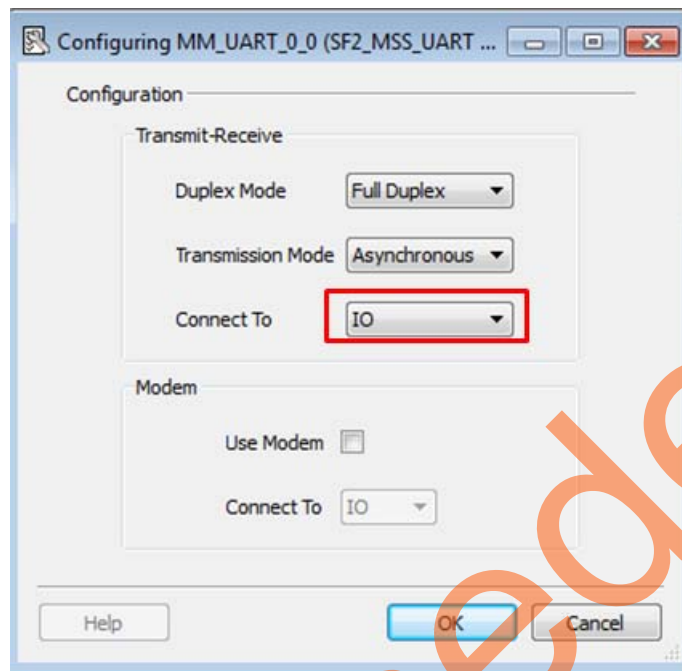

Figure 11 • MM_UART_0 Configuration Window
7. Select **IO** under **Connect To** option in the **MM_UART_0 Configuration** window, as shown in Figure 11.